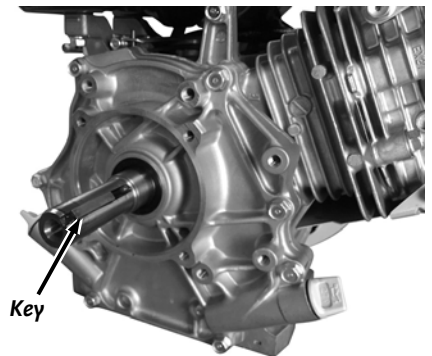

Figure 11
2. Slowly pull on the engine starter cord to position the key slot at the top of the shaft (Figure 11).